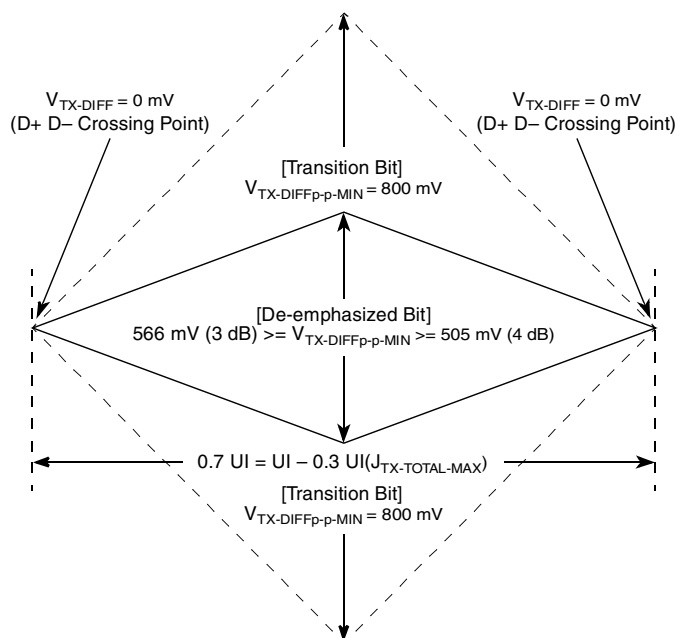
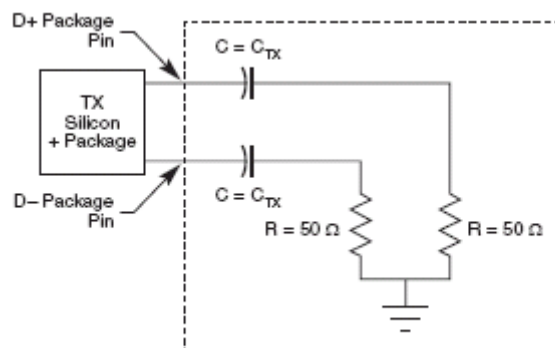

Figure 49. Minimum Transmitter Timing and Voltage Output Compliance Specifications
Figure 51. Compliance Test/Measurement Load
2. Specified at the measurement point into a timing and voltage compliance test load as shown in Figure 51 and measured over any 250 consecutive TX UIs. (Also refer to the transmitter compliance eye diagram shown in Figure 49.)
4. The transmitter input impedance shall result in a differential return loss greater than or equal to 12 dB and a common mode return loss greater than or equal to 6 dB over a frequency range of 50 MHz to 1.25 GHz. This input impedance requirement applies to all valid input levels. The reference impedance for return loss measurements is 50  $\Omega$  to ground for both the D+ and D- line (that is, as measured by a vector network analyzer with 50- $\Omega$  probes, see Figure 51). Note that the series capacitors,  $C_{\text{TX}}$ , is optional for the return loss measurement.
5. Measured between 20%–80% at transmitter package pins into a test load as shown in Figure 51 for both  $V_{\text{TX-D+}}$  and  $V_{\text{TX-D-}}$ .
The TX eye diagram in Figure 49 is specified using the passive compliance/test measurement load (see Figure 51) in place of any real PCI Express interconnect + RX component. There are two eye diagrams that must be met for the transmitter. Both diagrams must be aligned in time using the jitter median to locate the center of the eye diagram. The different eye diagrams differ in voltage depending on whether it is a transition bit or a de-emphasized bit. The exact reduced voltage level of the de-emphasized bit is always relative to the transition bit.
2. Specified at the measurement point and measured over any 250 consecutive UIs. The test load in Figure 51 should be used as the RX device when taking measurements (also refer to the receiver compliance eye diagram shown in Figure 50). If the clocks to the RX and TX are not derived from the same reference clock, the TX UI recovered from 3500 consecutive UI must be used as a reference for the eye diagram.
4. The receiver input impedance shall result in a differential return loss greater than or equal to 15 dB with the D+ line biased to 300 mV and the D– line biased to –300 mV and a common mode return loss greater than or equal to 6 dB (no bias required) over a frequency range of 50 MHz to 1.25 GHz. This input impedance requirement applies to all valid input levels. The reference impedance for return loss measurements for is 50  $\Omega$  to ground for both the D+ and D– line (that is, as measured by a vector network analyzer with 50- $\Omega$  probes, see Figure 51). Note that the series capacitors,  $C_{TX}$ , is optional for the return loss measurement.
The RX eye diagram in Figure 50 is specified using the passive compliance/test measurement load (see Figure 51) in place of any real PCI Express RX component. In general, the minimum receiver eye diagram measured with the compliance/test measurement load (see Figure 51) is larger than the minimum receiver eye diagram measured over a range of systems at the input receiver of any real PCI Express component. The degraded eye diagram at the input Receiver is due to traces internal to the package as well as silicon parasitic characteristics which cause the real PCI Express component to vary in impedance from the compliance/test measurement load. The input receiver eye diagram is implementation specific and is not specified. RX component designer should provide additional margin to adequately compensate for the degraded minimum Receiver eye diagram (shown in Figure 50) expected at the input receiver based on an adequate combination of system simulations and the return loss measured looking into the RX package
The reference impedance for return loss measurements is 50. to ground for both the D+ and D- line (that is, as measured by a Vector Network Analyzer with 50. probes—see Figure 51). Note that the series capacitors,  $C_{PEACCTX}$ , are optional for the return loss measurement.
The AC timing and voltage parameters must be verified at the measurement point, as specified within 0.2 inches of the package pins, into a test/measurement load shown in Figure 51.